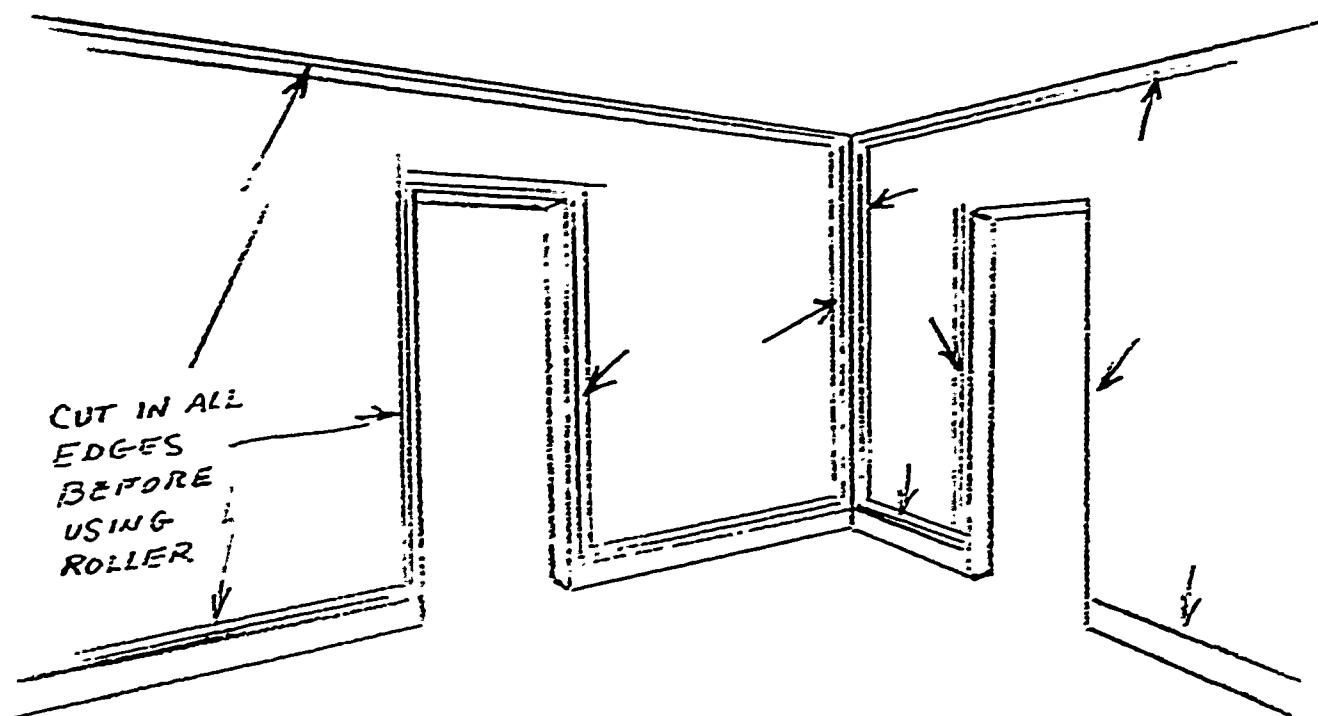

FIG. 411
6. If a roller is to be used--"cut in" all corners, edges, and around windows. See figure 411.